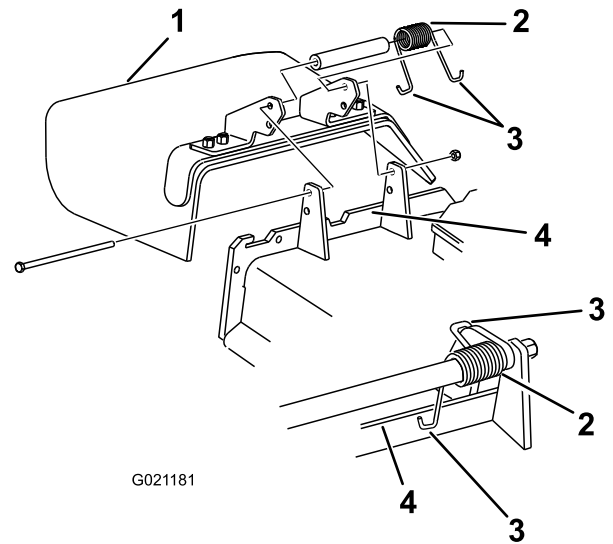

Figure 3
1. Make sure that 1 end of the spring is installed behind the deck edge before installing the bolt as shown in Figure 3.
2. Place the other end of the spring around grass deflector (Figure 3).